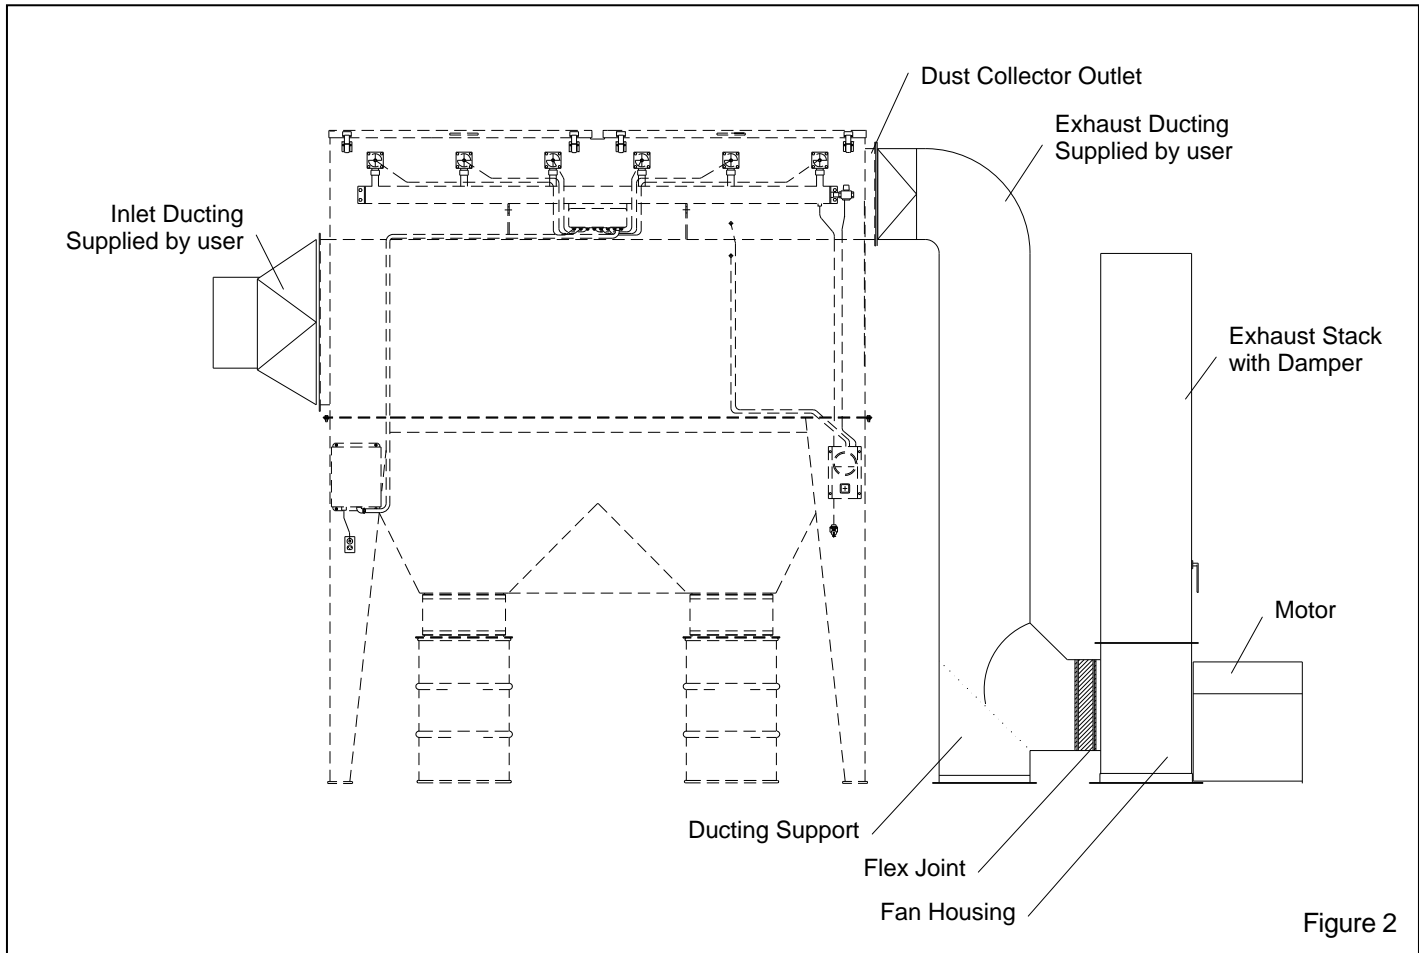

Figure 2
2.5.2 The illustration in Figure 2 shows a typical ducting and exhauster arrangement. The illustration is not to be used to fabricate ducting.